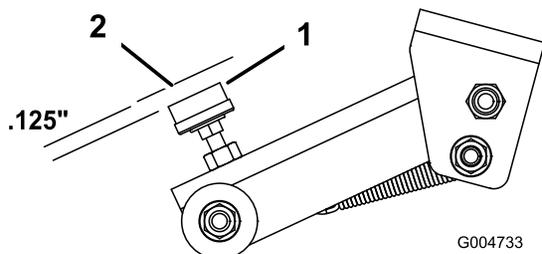

Figure 82
4. Clearance between adjustment screw rubber (Figure 82) cushion and deck latch should be .125 inch. If an adjustment is required, loosen nut on adjustment screw, adjust screw until required clearance is attained and tighten nut.